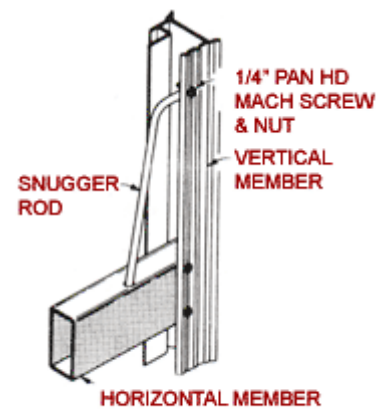

FIGURE 12
1.) Select a horizontal door member that is at a convenient height and drill one (1) 17/32" diameter hole as shown.
2.) Next drill one (1) 9/32" diameter hole in the vertical door member. **Fig. 12**